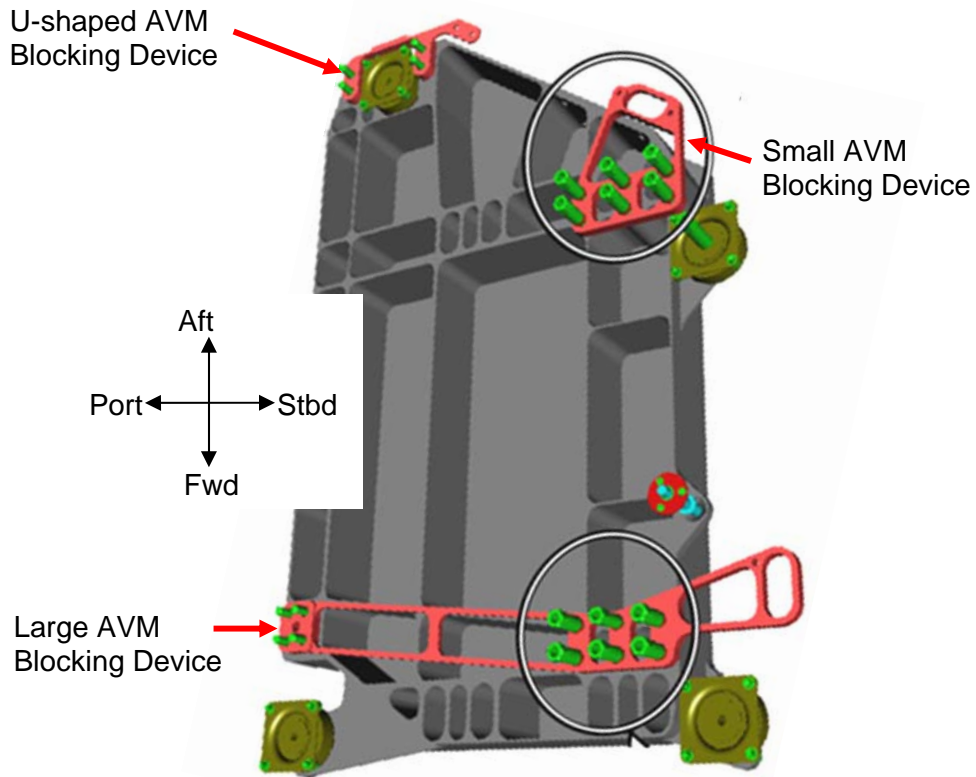

Figure 8.- AVM Launch Brackets and Port Launch Bolts (Circled).
- 4.1 Remove Large AVM Blocking Device. Refer to Figure 8 and 9.
- 4.2 Remove Small AVM Blocking Device. Refer to Figure 8 and 9.
Refer to Figures 8, 9, and 10.